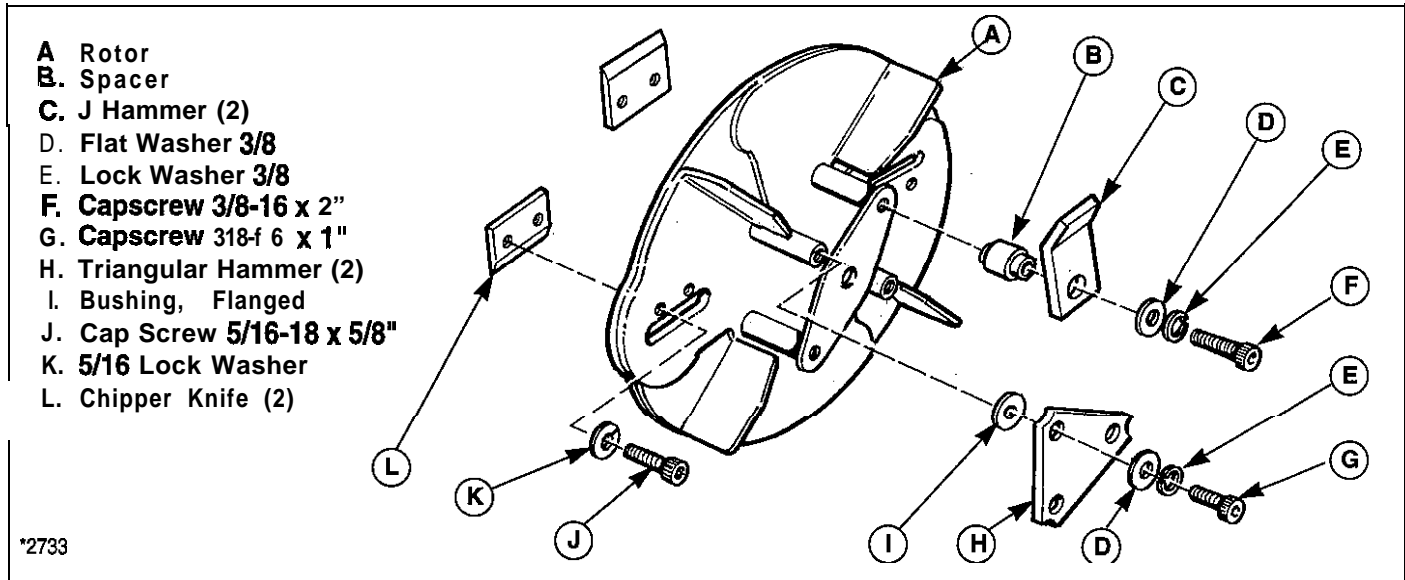

Figure 29. Proper Hammer Assembly
NOTE: The correct assembly sequence of **parts** is shown in Figure 29. All parts must be reinstalled in the correct order and location to ensure proper rotor balance, shredding efficiency, and safety. Use care to catch the parts as the **capscrew** is removed.
4. Remove the panel fastener and slotted hex head screws from the left cover (Figure 29).